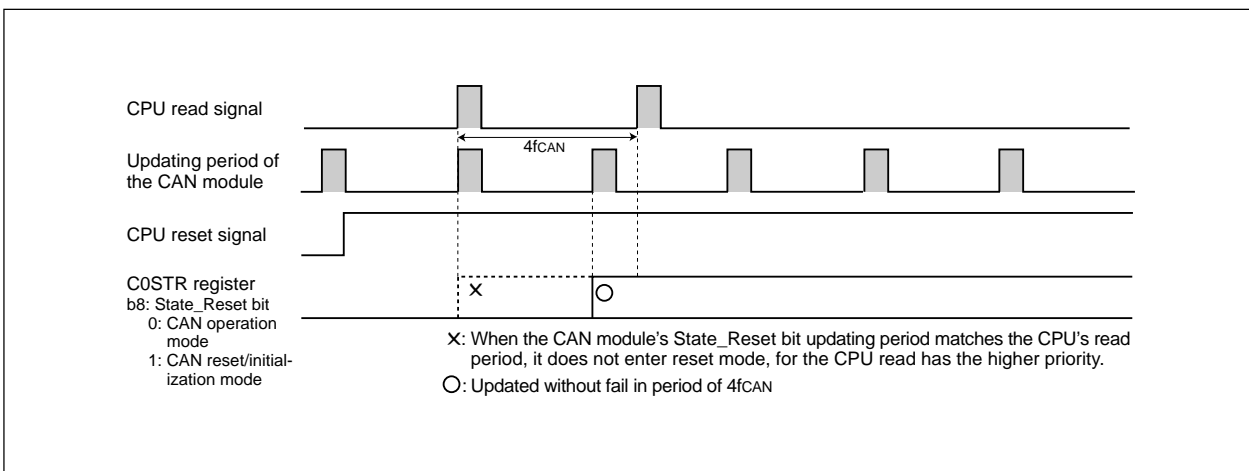

Figure 22.7 When Polling Period of CPU is 3fCAN or Longer
- (2) When the CPU polls the C0STR register, the polling period must be  $3f_{CAN}$  or longer. (See **Figure 22.7**)